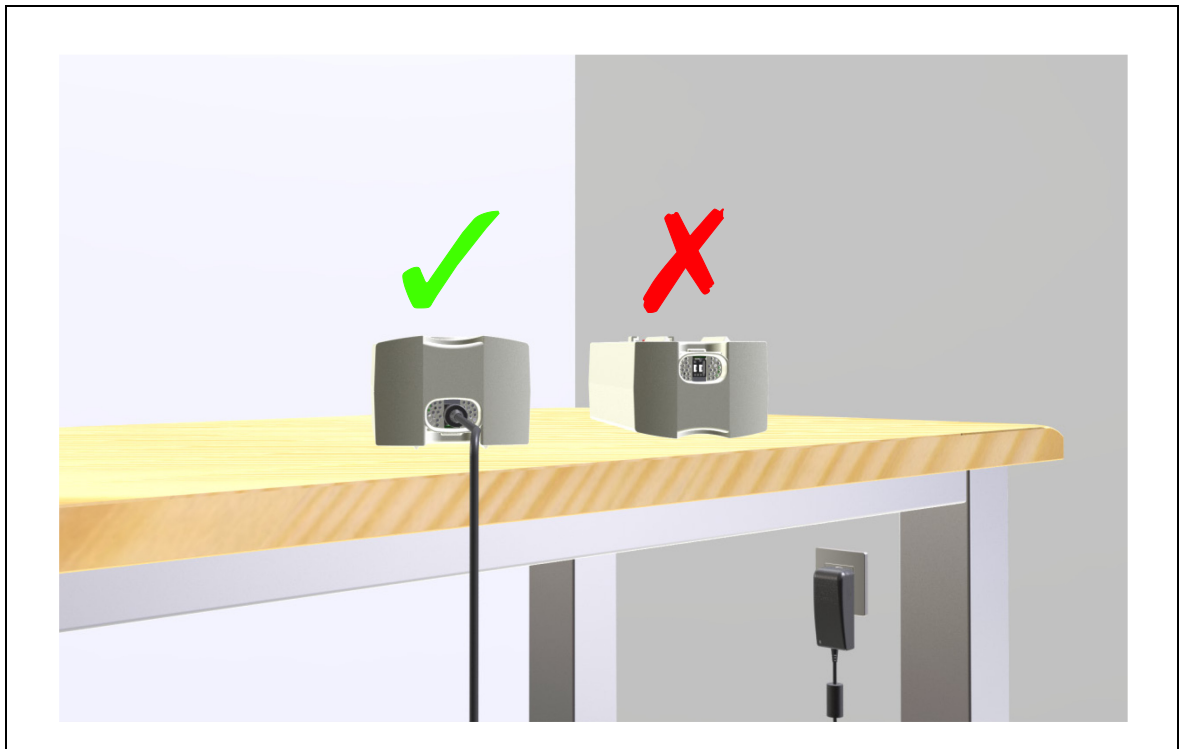
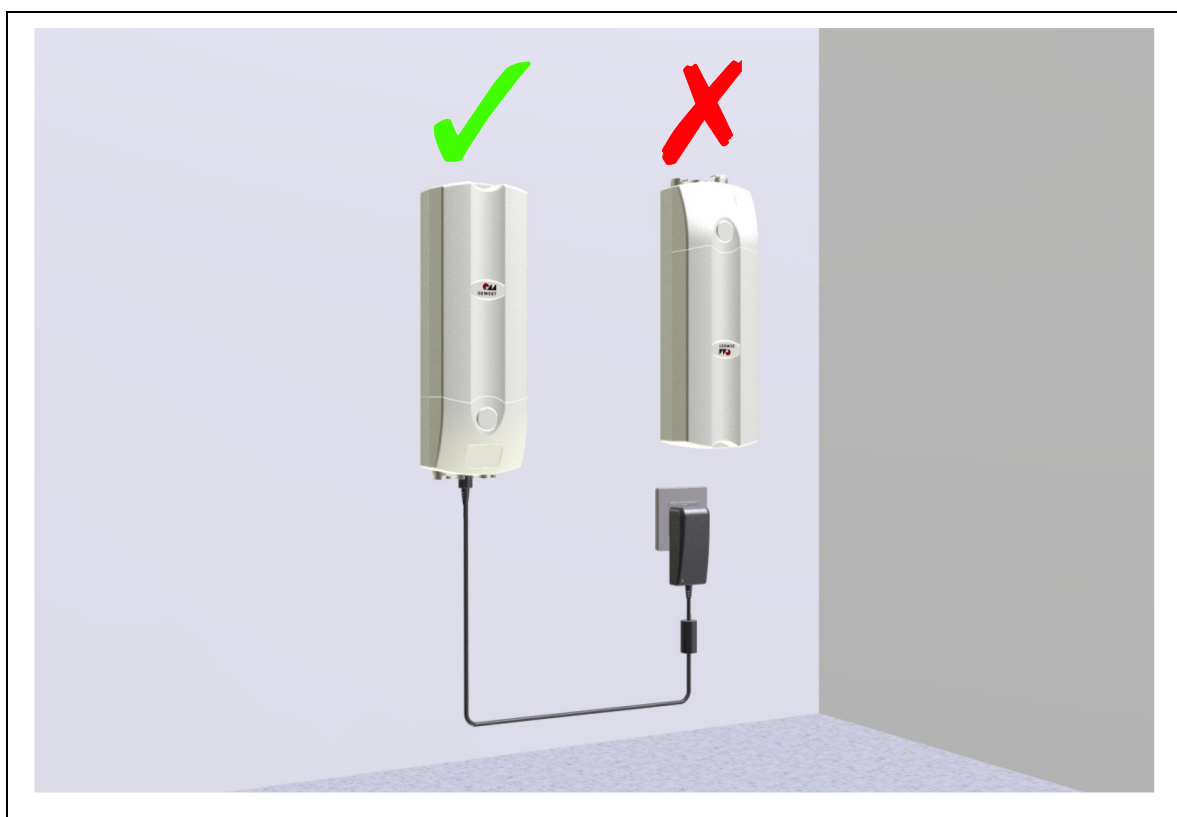

Figure 16 Charging position of the ACCU AC 4.5 and ACCU AC 4.5DC
Figure 18 Charging position of the ACCU AC 4.5 and ACCU AC 4.5DC on the charger
- The ACCU should only be charged as shown in Figure 16, Figure 18 and Figure 21 (pages 34, 36 and 39).
- The ACCU should not rest upside down while charging (see Figure 18 on page 36).
<p>Make sure that the ACCU is in the correct position while charging. The ACCU may only be loaded when it is resting on its base (as shown in Figure 16).</p> <p>Do not place the ACCU upside down during charging.</p>
<p>Make sure that the ACCU is in the correct position while charging. When using the charging station, the ACCU may only be charged in an upright position (refer to Figure 18).</p> <p>The ACCU may not be upside down (in a horizontal position) while charging.</p>